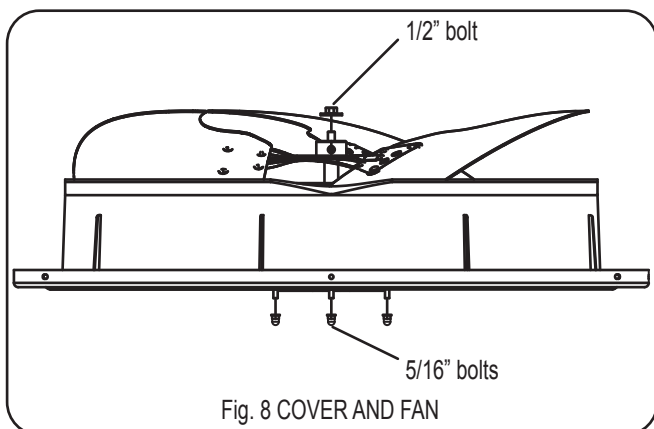

Fig. 8 COVER AND FAN
- Step 3: Be sure to place fan cover unit on the ground as indicated in Fig. 8.